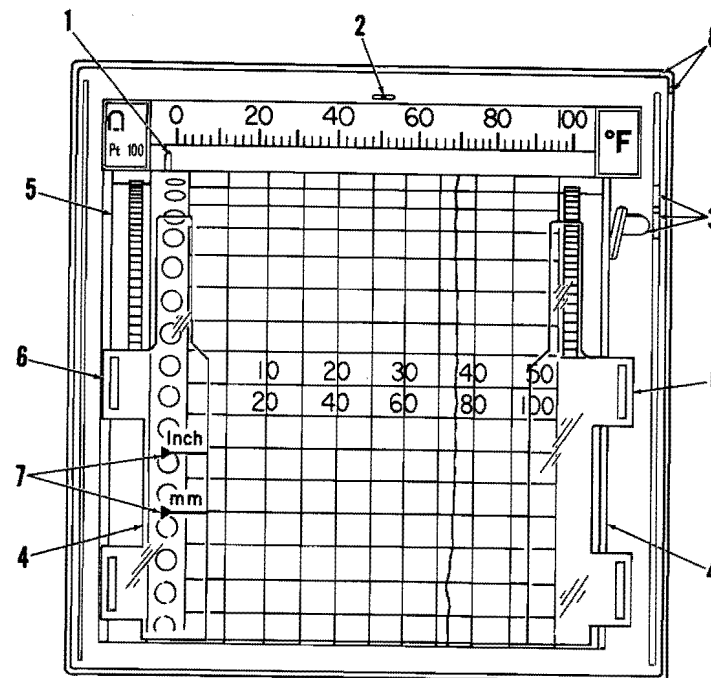

Figure 3-1. Front Window Removed
NOTE: Item numbers in Table 3-1 correspond with call-outs in Figure 3-1.
- 9. Feed Spool** New chart paper is installed on this spool. The chart drive roller (Figure 3-1, item 5) pulls the paper from this spool to the marking point (Figure 3-1), where the clamping bar clamps the pointer against the paper and causes an imprint at the point of contact.
- i. With chart guides (Figure 3-1, item 6) open, route chart paper over the roller rods, down the front of chart drive unit. Align the perforations in chart paper to engage the chart drive roller.
- m. Push the on-off control lever down to the green position (Figure 3-1, item 3).